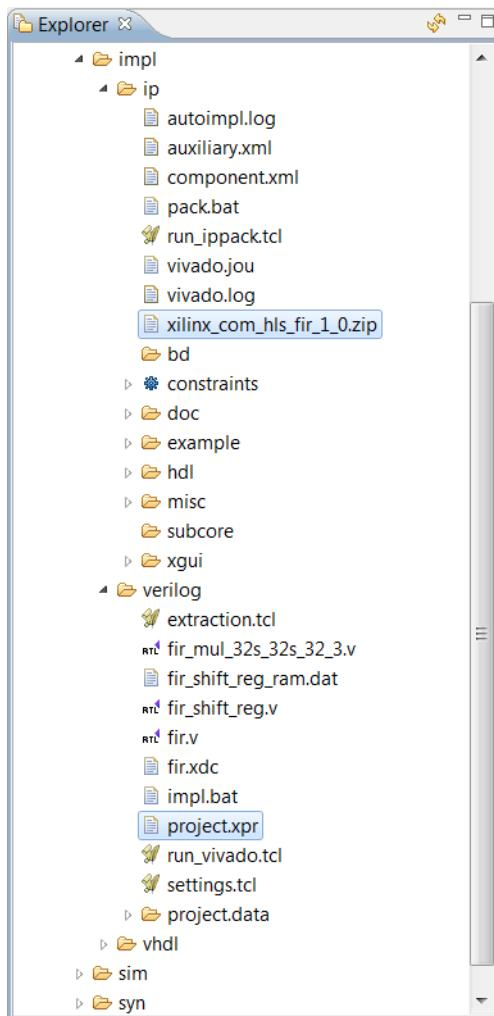

Figure 2-15: RTL Verification Results
- Expand the **ip** folder and find the IP packaged as a zip file, ready for adding to the Vivado IP Catalog (Figure 2-15).
Note: In Figure 2-15, if you expand the Verilog or VHDL folders inside the `impl` folder, there is a Vivado project ready for opening in the Vivado Design Suite.